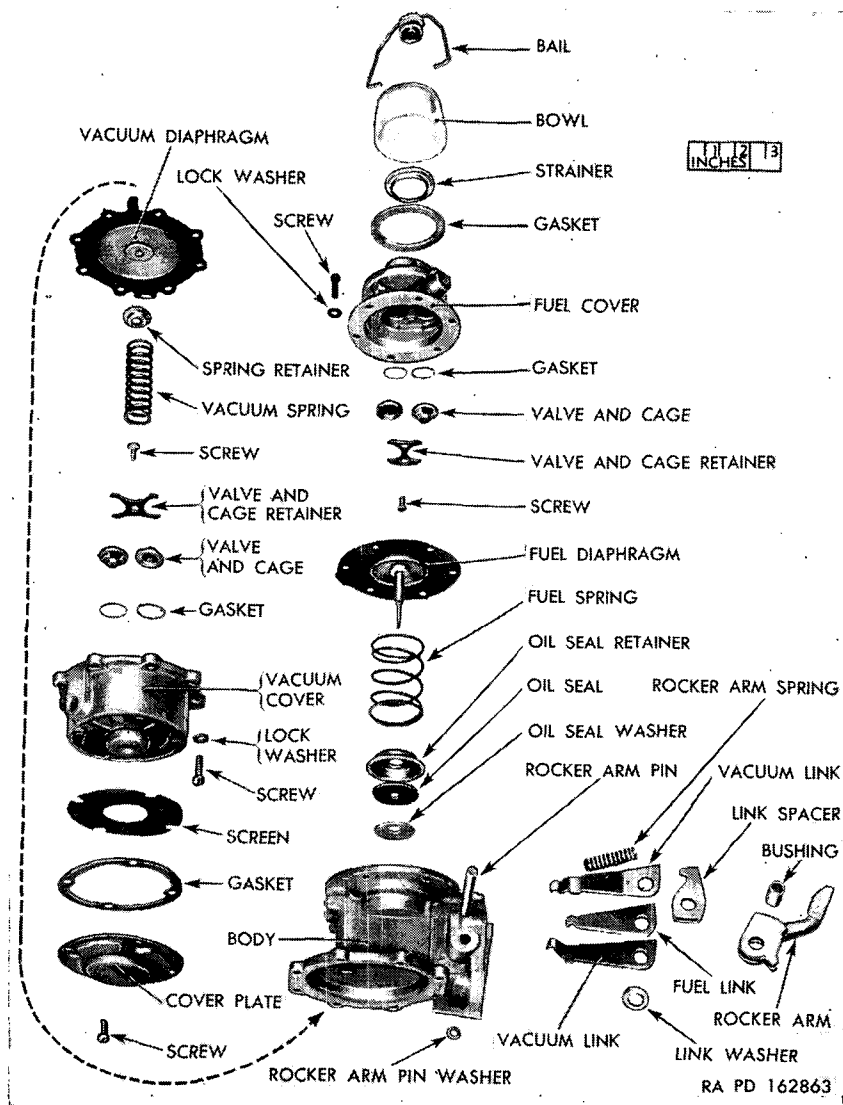

Figure 37. Fuel pump—disassembled (typical series AM construction).
(fig. 37)
*a. Assemble Body (fig. 37).*
- (1) Assemble link spacer over fuel link. Place one vacuum link on each side of the fuel link. The hook ends of the vacuum link should come together so that they surround the fuel link. All link hooks should point in the same direction. Place as-